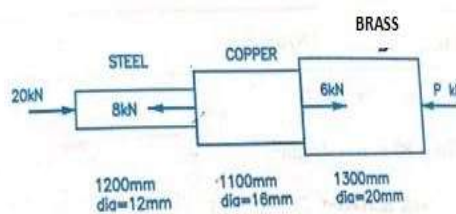

Figure 5
- Q.3 (a) A stepped bar made of steel, copper and brass is under axial force as shown in Figure 5 and is in equilibrium. The diameter of steel is 12mm, diameter of copper is 16mm and diameter of brass is 20mm. Determine: i) Magnitude of unknown force P, ii) Stresses in each material and iii) Total change in length of the bar. Take  $E_{STEEL} = 200\text{GPa}$ ,  $E_{COPPER} = 100\text{GPa}$ ,  $E_{BRASS} = 80\text{GPa}$ . [06]